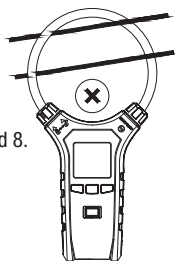

Figure 5
- a. Do not test more than one conductor at a time as shown in as shown in Figure 5